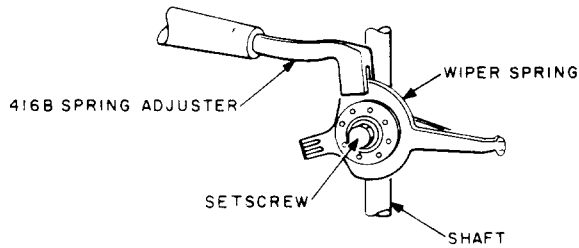

Fig. 15—Method of Adjusting Spring Tension Commutator Wiper
- (1) To change the position of the commutator wiper spring, loosen the setscrew in the wiper hub with the 3-inch C screwdriver or the 555A wrench. Move the wiper upward or downward as required.
- (2) To adjust the tension of the wiper spring against the commutator contacts, proceed as follows.
- (b) Apply the 416B spring adjuster to the upper circular part of the wiper spring, as shown in Fig. 15, and twist the tool to the right or left as required.